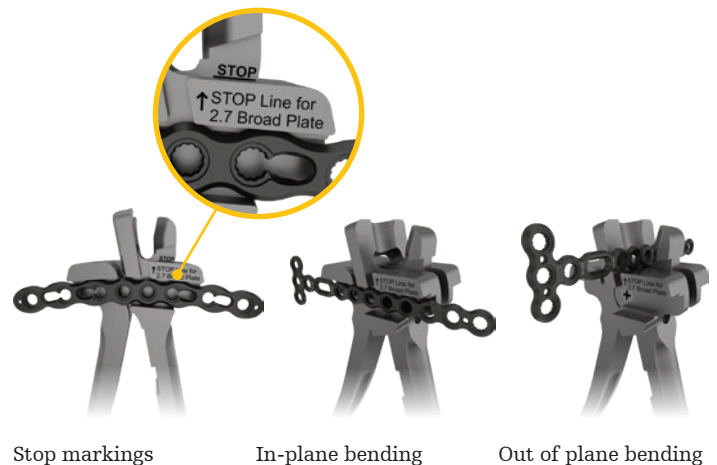

Fig. 1: Multiple-use plate bender for in plane and out of plane bending
The Plate Bender (ref 705143) can be used for both in-plane and out-of-plane bending for all 2.7mm plate sizes. The bender has laser engraving on both sides to aid in identifying which plates may be bent. The stop line laser engraved on the plate bender indicates the maximum allowable in-plane bend for the 2.7mm broad locking plates. In-plane bending of the 2.7mm broad locking plates should not be performed past this stop line (Fig. 1).